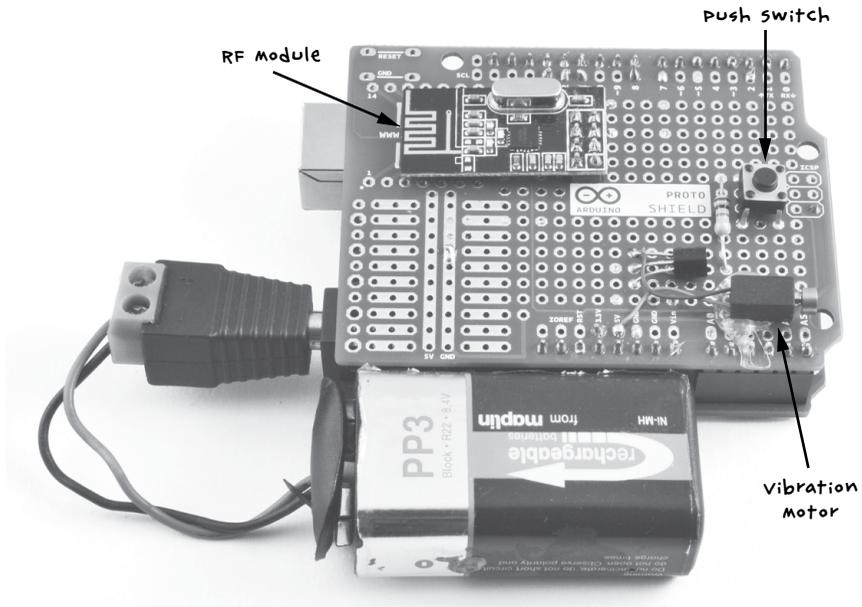

FIGURE 11-2: A HAPTIC COMMUNICATOR
*Haptic* is just a fancy way of saying “relating to touch,” and instead of making noise, the devices you’ll build in this project will vibrate like a cell phone. You will make a pair of these haptic devices, one of which is shown in Figure 11-2.